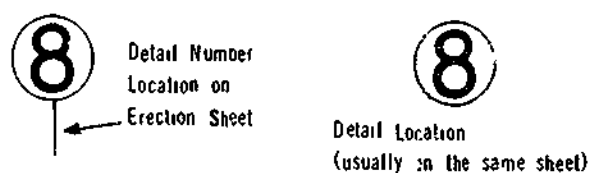

Figure 4-30. Detail Location
**Details** The location of details is emphasized on the drawing (Figure 4-30).